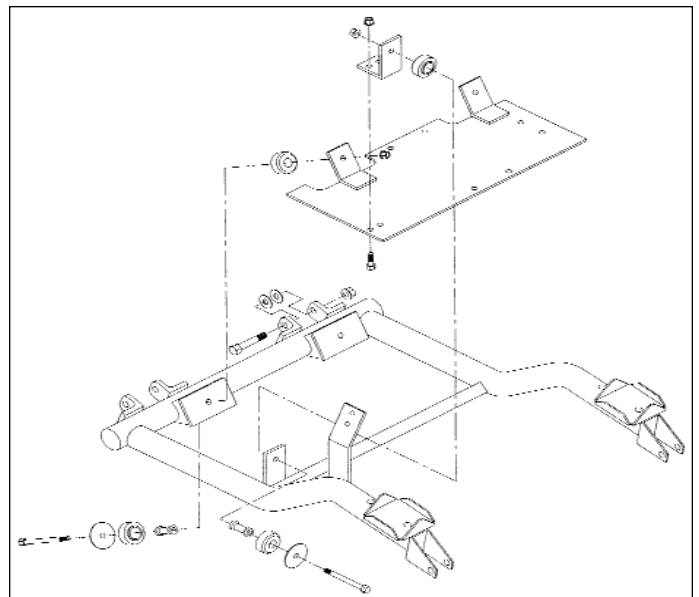

Figure 17 - Engine Mount Plate Assembly
1. On gas vehicles, install engine mount plate and suspension mounts. See Figure 17.